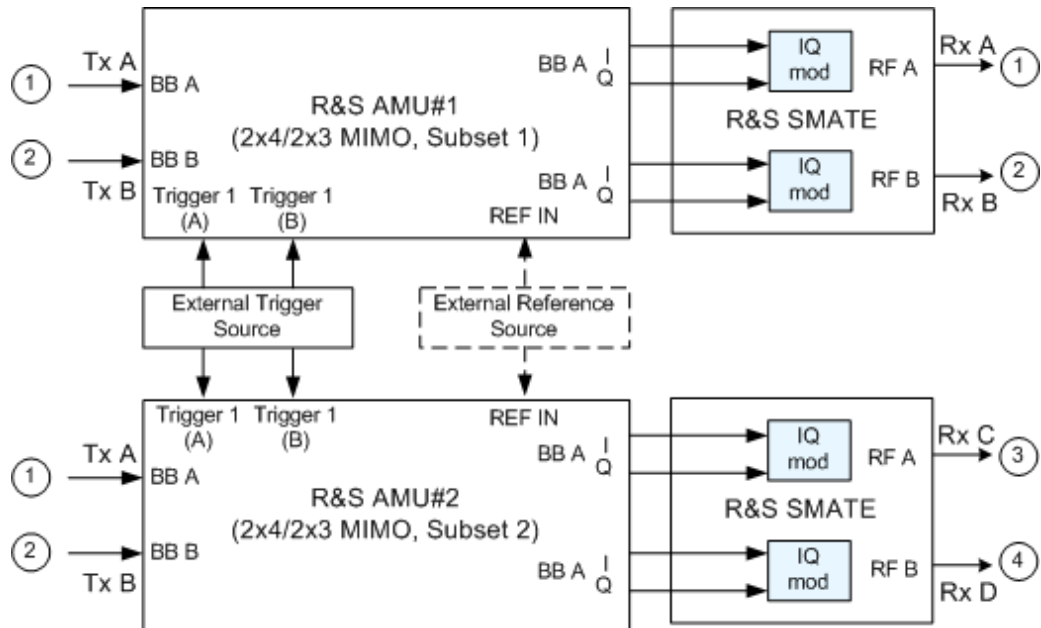

Fig. 5-8: 2x4/2x3 MIMO up to 6GHz with two R&S AMUs and two R&S SMATEs
5. For simulation of a 2x4 or 2x3 MIMO mode up to 6 GHz, the two R&S AMUs and two R&S SMATEs have to be connected as a chain (see figure 5-8).